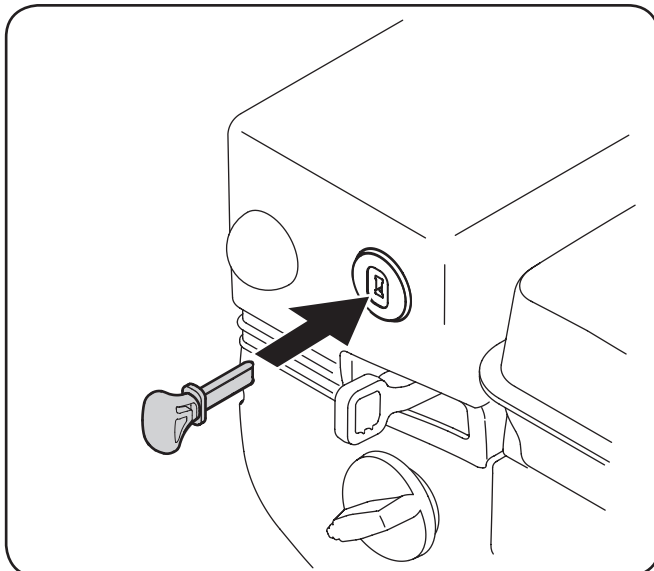

Figure 5-1
2. Insert key fully into slot, Fig. 5-1. Make sure it snaps into place. DO NOT turn key. The engine cannot start unless the key is inserted into ignition switch.
1. Insert key fully into slot, Figure 5-1. Make sure it snaps into place. **DO NOT** turn key. The engine cannot start unless the key is inserted into ignition switch.
4. Push primer three (3) times, making sure to cover vent hole when pushing. If engine is warm, push primer only once. Always cover vent hole when pushing. Cool weather may require priming to be repeated.